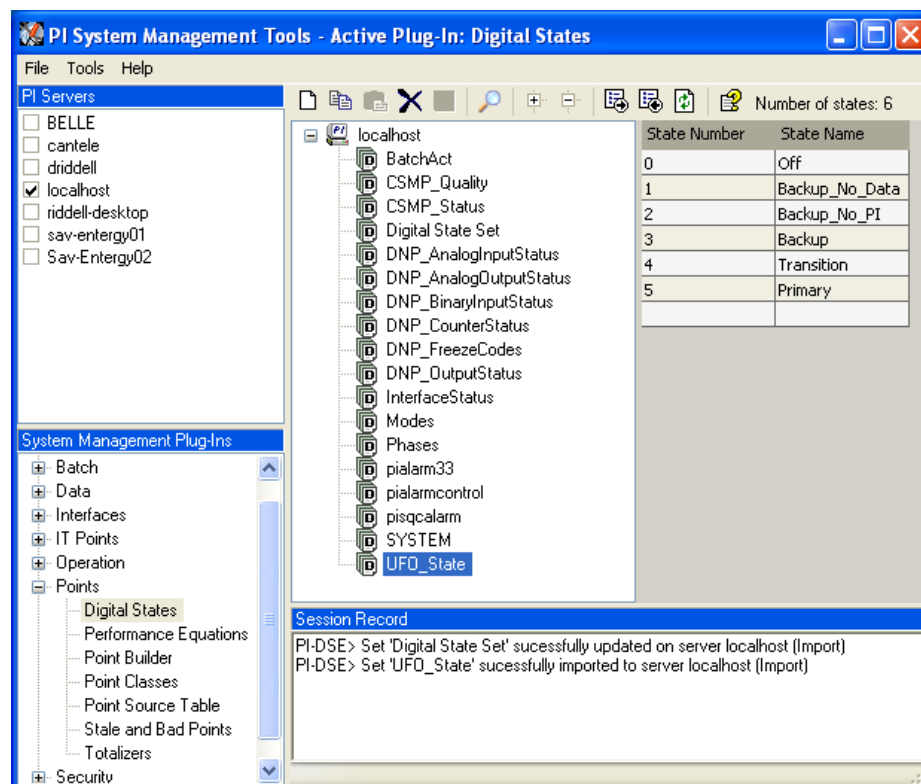

Figure 9: The PI SMT application showing the UFO_State digital set created in the “localhost” PI Data Archive.
7. The `UFO_State` digital set is created as shown in Figure 9 below.